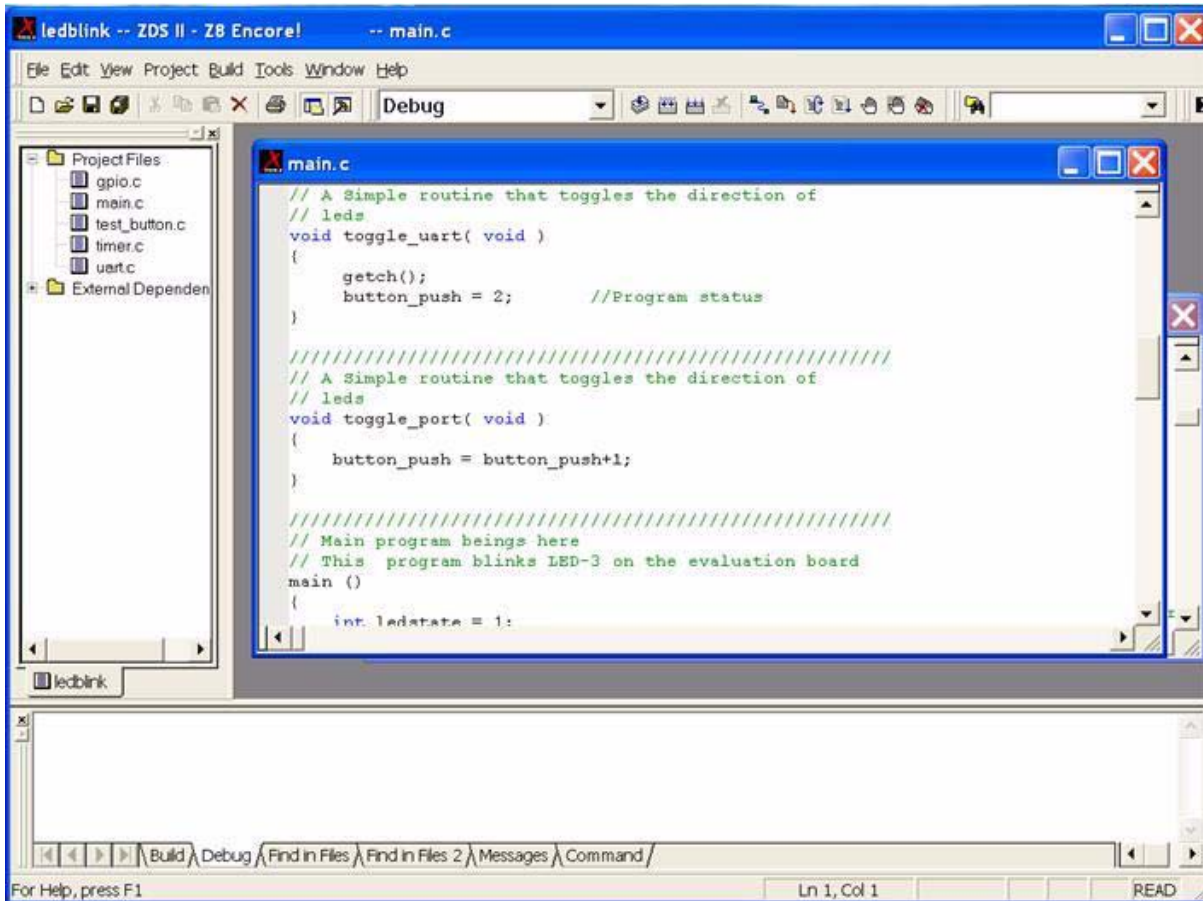

Figure 6. ZDS II Opening Screen
7. Select the ledblink.pro file and click open. The initial ZDS II program screen opens (Figure 6).